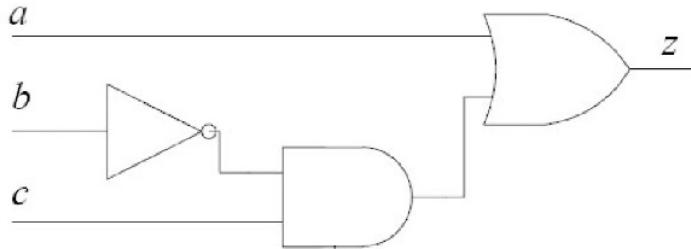

Fig. 3.21: circuit diagram
38. Consider the boolean Function $z(a, b, c)$ from below Fig. 3.21.